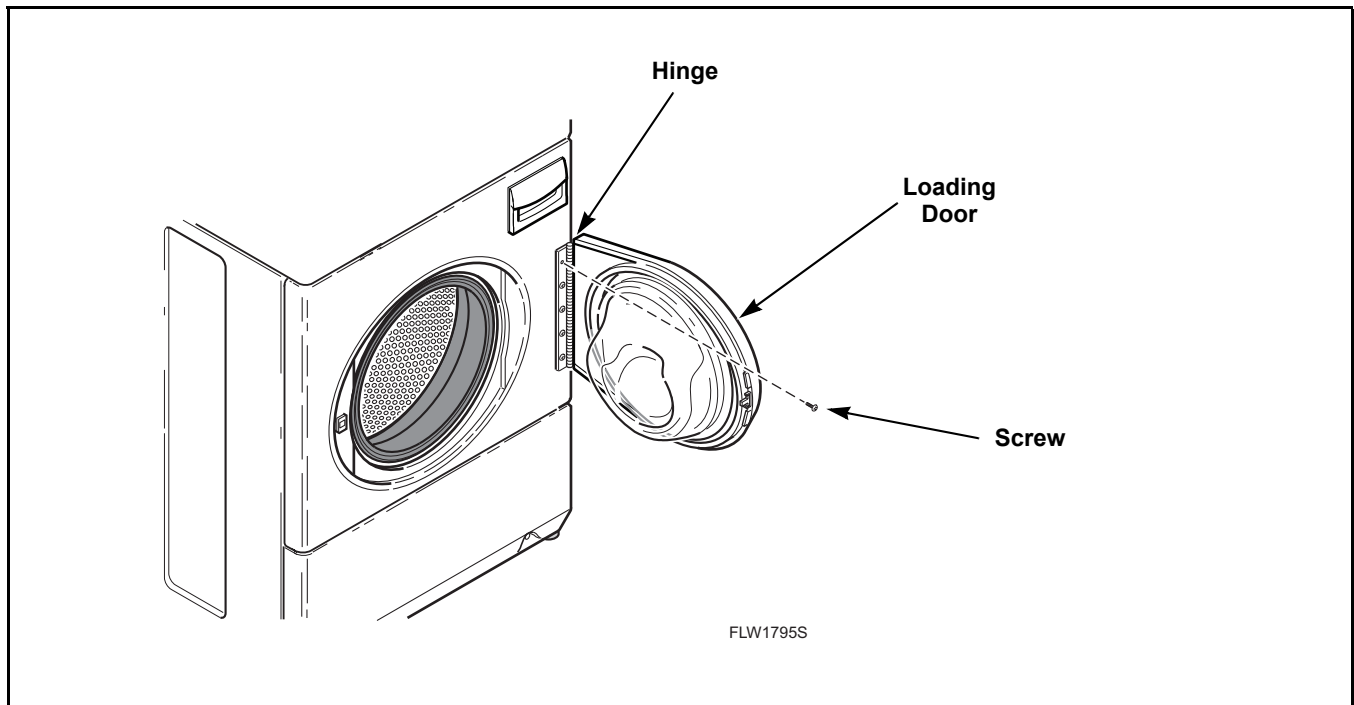

Figure 4
- b. The loading door can be adjusted up or down somewhat by loosening screws holding door hinge to front panel, then raise or lower door before retightening screws. Refer to *Figure 4*.